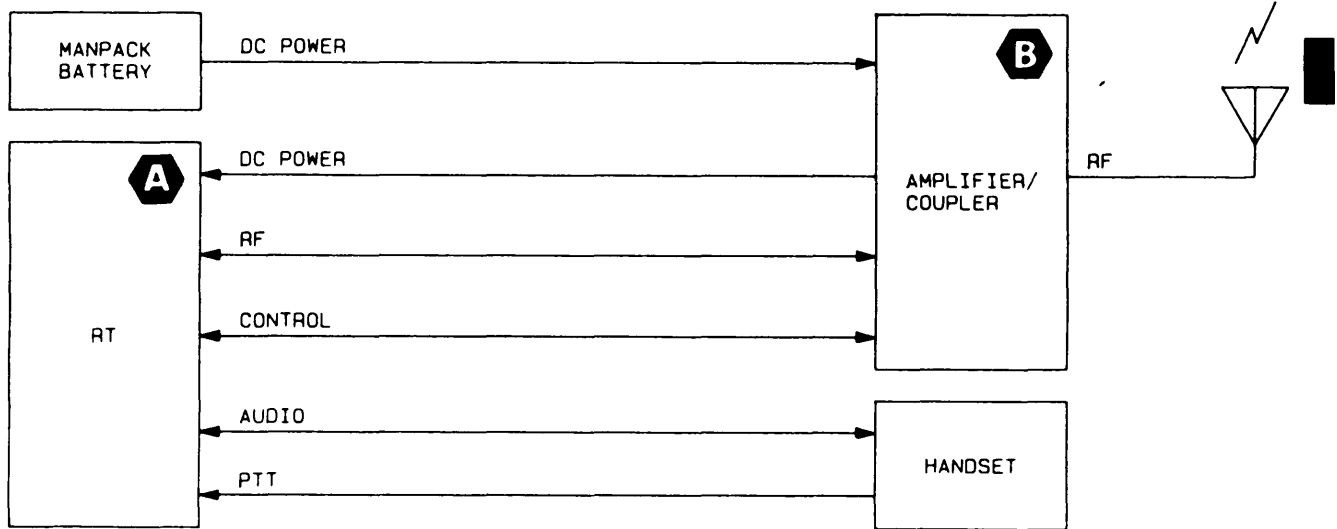

Figure 1-2. Principles of Operation
**PRINCIPLES OF OPERATION, fig 1-2**